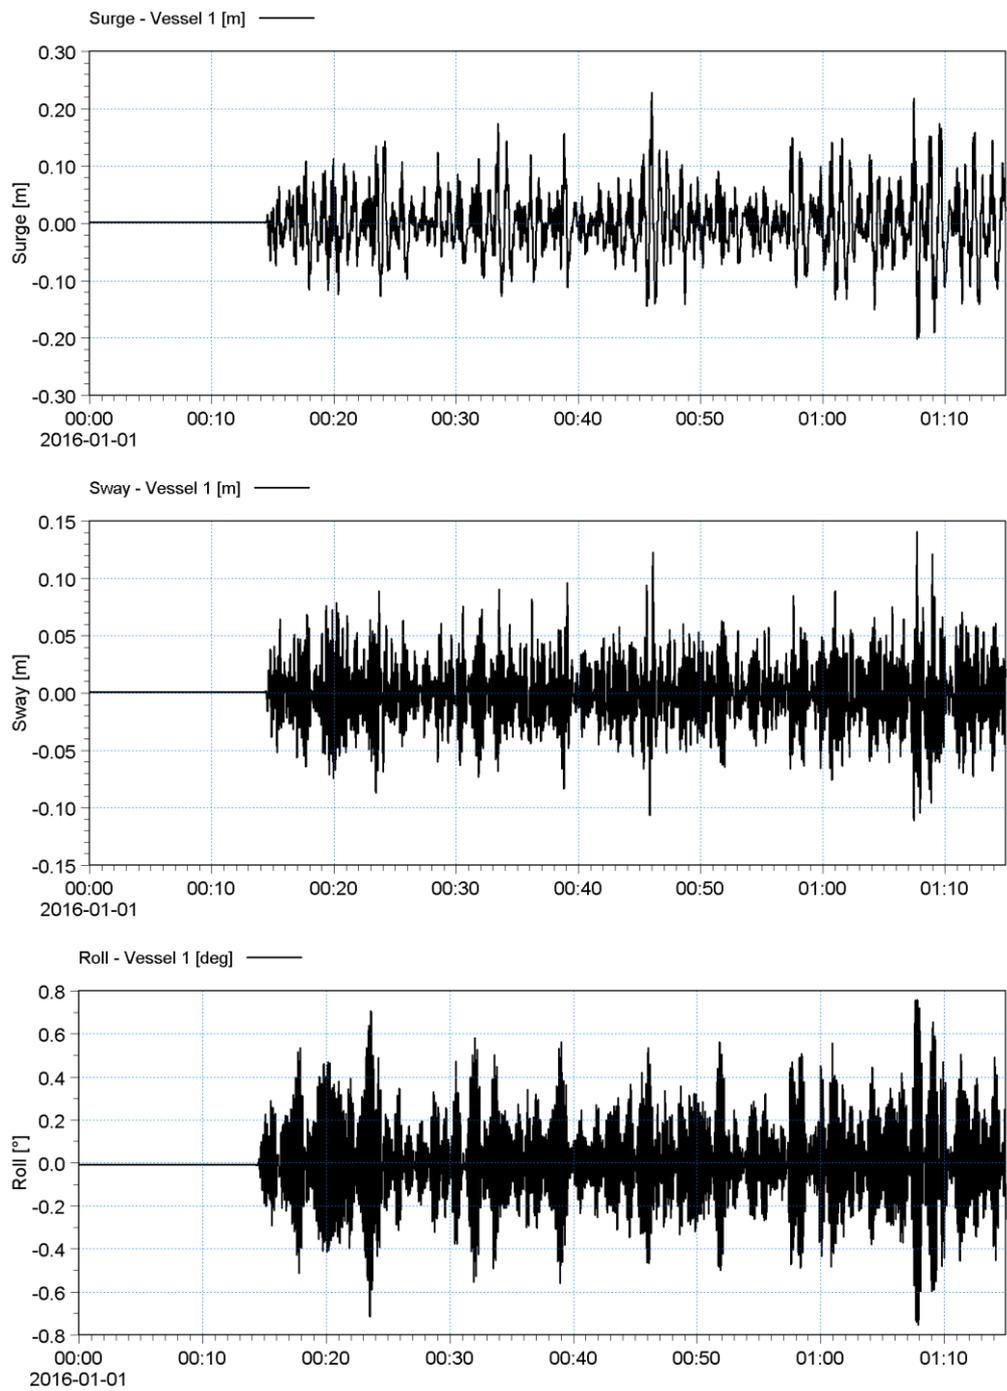

Figure 2-26 Time series of vessel motions
- Select item 1 – 'Surge'
- Repeat the steps 6-9 for the remaining 2 windows and plot items: sway and roll (from output file: DHI_Vessel_motions.dfs0). The final plots are shown in Figure 2-26.